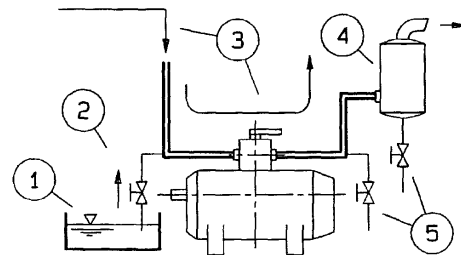

Fig. 13.
- Insert a rod (diameter 6 mm, length 150 mm) in the hole as in figure 13.
- Turn the rotor shaft by hand until the rod touches the external diameter of the rotor, figure 13.
- With a marking awl, mark the rod at the position of the threaded hole, figure 13.